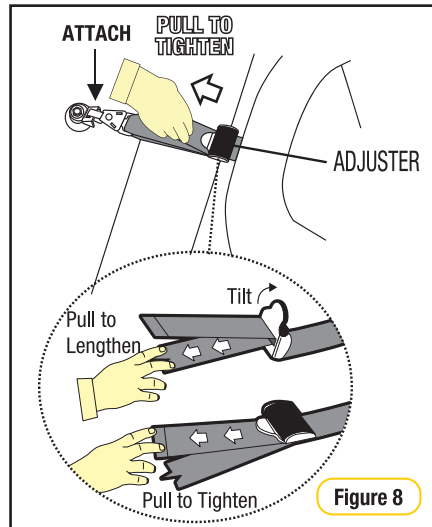

Figure 8
**Step 6:** Pull to tighten to remove all the slack, from the upper anchorage strap. Do not overtighten as this could cause the restraint to lift off the vehicle seat (Refer to Figure 8).